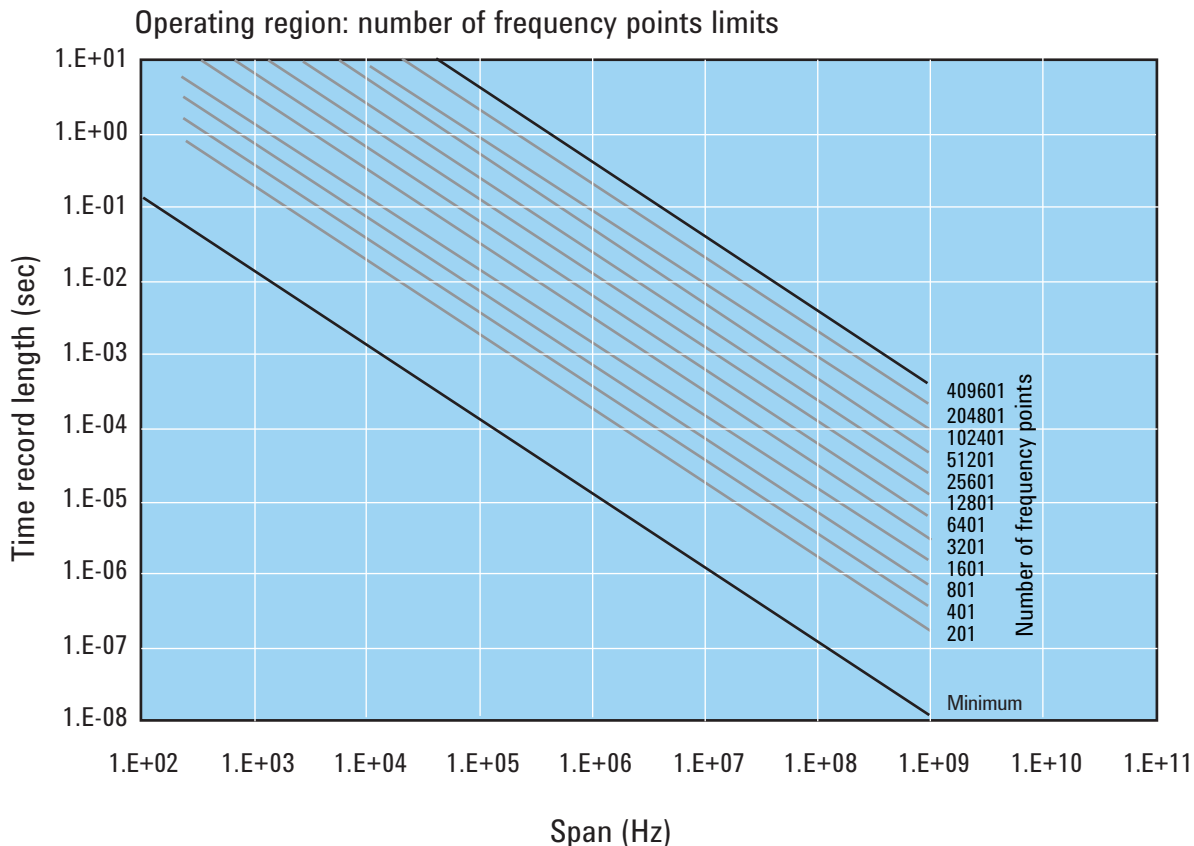

Figure 3. The user-settable parameter, frequency points, begins to determine the boundaries of the time record length and frequency span operating region.
The operating region is described in terms of span and time record length. For a given window type it could just as easily be described in terms of span and RBW. Figure 3 shows the effects of the number of time points the 89600 VSA software is allowed to collect. Because sample spacing is inversely proportional to span, the record length decreases as span increases. Although a family of lines is shown, only two define the operating region at any one time. The lowest line gives the smallest time record length allowed for any given span. The position of this line is determined by minimum number of time points (16) the VSA requires in a time record. The line that defines the upper time record length boundary is positioned by the maximum number of time points the VSA allows in a time record. The maximum number of time points is determined by the **Frequency Points** setting (**MeasSetup>ResBW>Frequency Points**). The 89600 VSA is constrained to operate in the region between these two lines. Note that the operating lines of Figure 3 are the same for all Infiniium models.